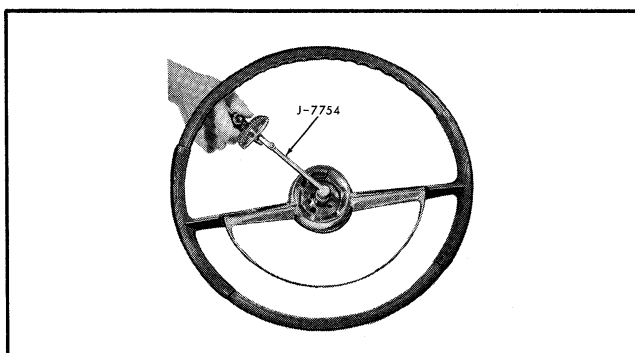

Fig. 9-6 Checking Steering Gear Adjustment
4. With lb. in. torque wrench attached to a 5/8"-12 point socket, measure and record at least 30° off center (Fig. 9-6).
3. Reassemble steering connecting rod to pitman arm. Set spokes of steering wheel in straight ahead position (mark on steering shaft up, Fig. 9-6). If road wheels are not straight ahead, adjust steering tie rods.